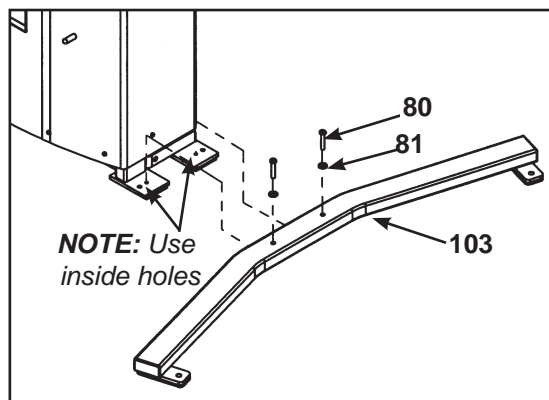

Figure 4
4. Installing stabilizers (see steps 4A - 4D and Figure 4).
- B. Align one of the stabilizers with the holes in the frame. See Figure 4.
- C. Secure the stabilizer using two BHSCS .375-16 x 2.00 (black, #80) and two black washers .3125 (#81) as shown in Figure 4.